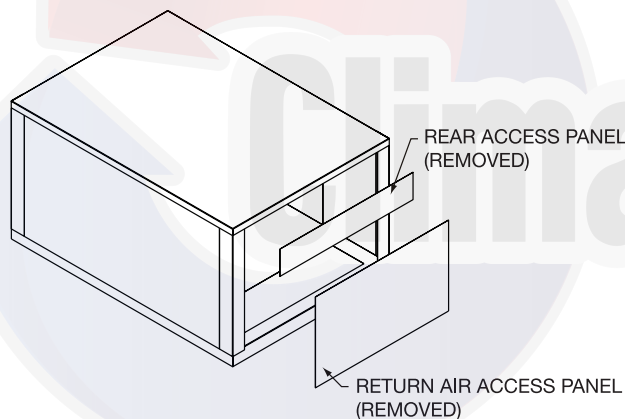

Fig. 18 — Remove Access Panel(s) from Unit
3. Remove return air access panel from unit and rear access panel(s) if applicable as shown in Fig. 18.